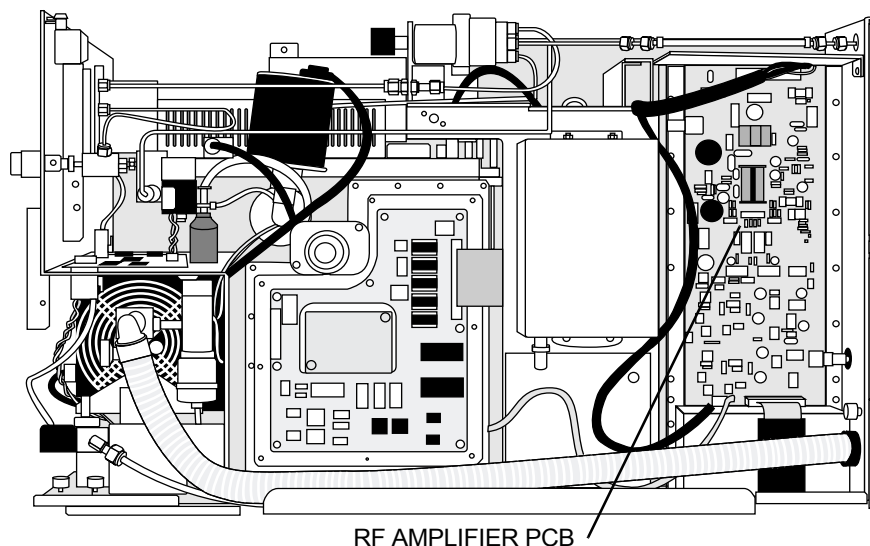

Figure 7-20. RF Amplifier PCB
3. Remove the top and right side covers (page 1-12). The RF Amplifier PCB is exposed (Figure 7-20).